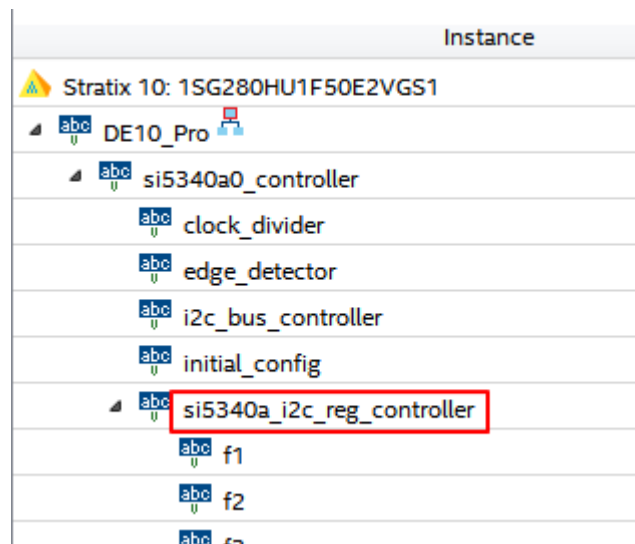

Figure 5-6 Sub-Module file "si5340a_i2c_reg_controller.v"
4. Open Si5340 control IP sub-module "si5340a_i2c_reg_controller.v" as shown in **Figure 5-6**, refer to Design Report parameter to modify sub-module corresponding register value (See **Figure 5-7**).